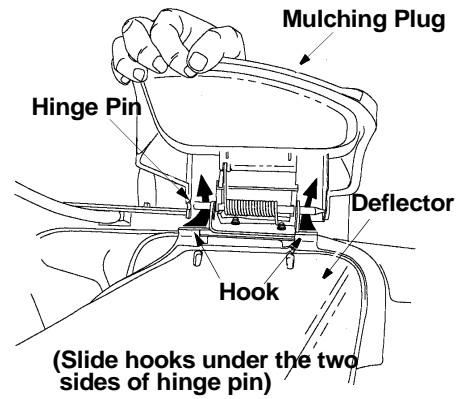

Figure 9
- On the side of the mower, lift the mulching plug. See Figure 9.
- Slide the two hooks of the side discharge chute under the hinge pin on the mulching plug assembly as shown in Figure 9. Lower the side mulching plug.